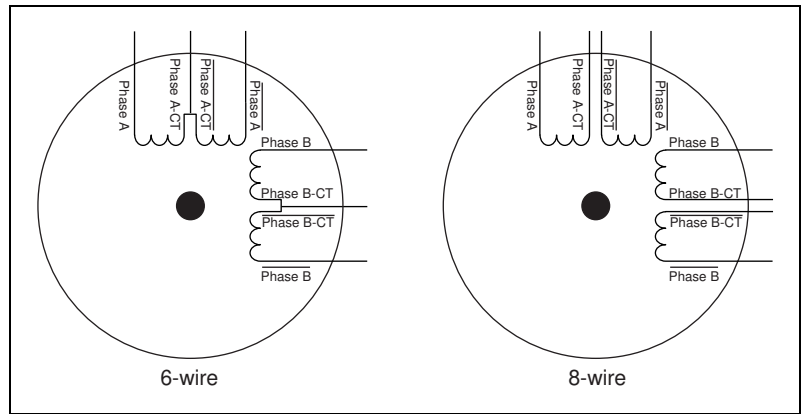

Figure 22. 6-Wire and 8-Wire Stepper Motors
Two-phase stepper motors come in 4-, 6-, and 8-wire variations. Figure 22 shows a 6-wire and an 8-wire stepper motor respectively. A 4-wire motor is the same as a 6-wire motor except that the center taps (CT) are not brought out.